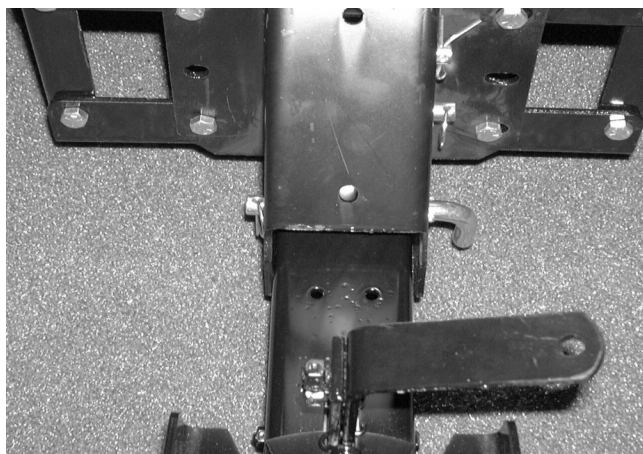

FIGURE 9.
11. Remove the hairpin clip from the lift link pin which is assembled to the pivot support bracket. Insert the end of the lower lift handle assembly through the notch in the pivot support bracket and through the holes in the channel. Align the lift link pin with the hole in the welded bracket on the lower lift handle assembly. Insert the lift link pin through the hole in the bracket and secure with the hairpin clip. See figure 9.